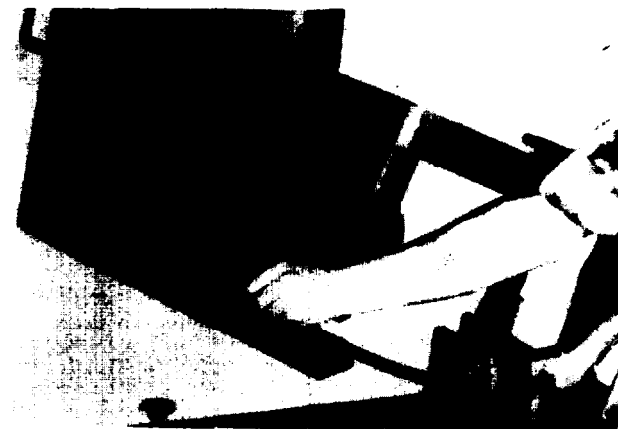
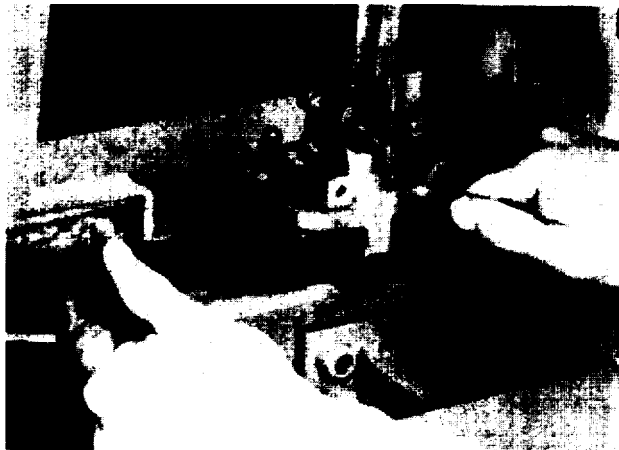

Figure 2
Figure 3
E. BLADE INSTALLATION. Raise the cutting head 6" or 7" and hold it in this position by closing the cutting head descent valve. Open both blade wheel guards on the cutting head. Swing up the blade guard cover (mounted on the saw guide). Hold the looped blade in front of you with the smooth back edge toward you. Lower the blade into the cutting head and place it around the wheels (Fig. 2). The teeth on the lower strand of the blade should be in position to cut as the blade travels toward the driving wheel. If the teeth are not pointing in this direction, remove the blade, turn it inside out, and replace it. At each blade guide, twist the blade to a vertical position (teeth down) and insert it up between the guide rollers (Fig. 3). Turn the blade tensioning knob just enough to take the slack out of the blade, but leave the blade loose enough so that it can be slid up against the wheel flanges (Fig. 4). After lifting the blade against the flanges, close the wheel guards and tension the blade by turning the handknob as tight as is comfortably possible with one hand (Fig. 5). If the blade is too loose, it may slip on the driving wheel or it may not cut straight. If the blade is too tight, metal fatigue will cause premature failure. With the